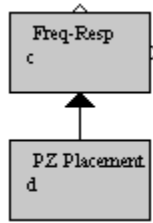

Figure 1.1: J-DSP simulation diagram to study effects of pole and zero locations on frequency response.
**Step 1 (User-1):** Establish a simulation diagram as shown in Figure 1.1 and open the dialog windows of both the **PZ placement** block and the **Freq-Resp** block. Place a pole at (0.33, 0.78). Observe the frequency response magnitude plot in the dialog window. How is the pole location related to the characteristics of the magnitude response plot?